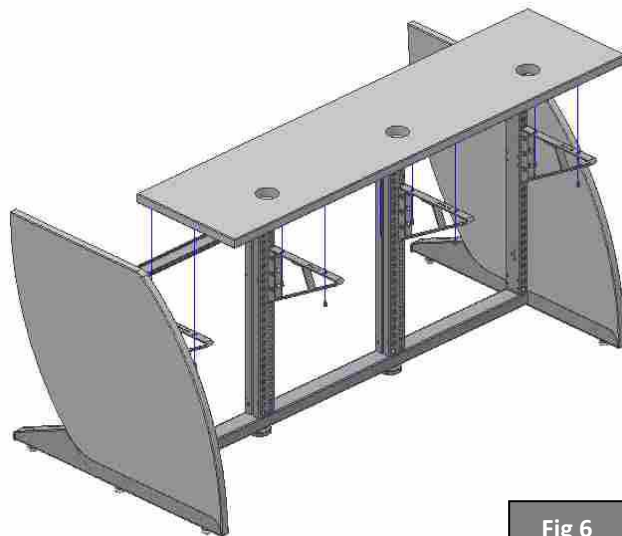

Fig 6
STEP 3 – Place the **console shelf** on the **brackets** and screw them from below with **NM6x12 DIN785 Phillips screws** (Fig. 6 and 7).